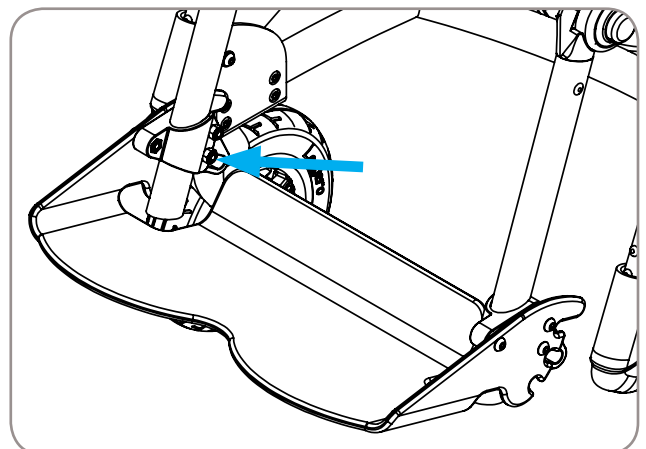

Figure 14
1. Loosen bolts/nuts on clamps with 4mm hex wrench and 10mm wrench, 2 bolts/nuts per side. Reference Figure 14.